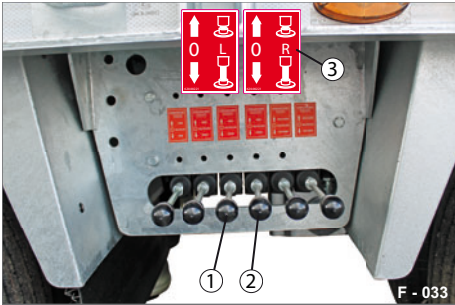

Fig. 66 Operating console on chassis
The operating levers on the operating console are labelled according to the function (see Fig. 66/3).
- Press the corresponding lever (Fig. 66/1 or 2) down and hold it.
- Press the corresponding lever (Fig. 66/1 or 2) upwards and hold it.